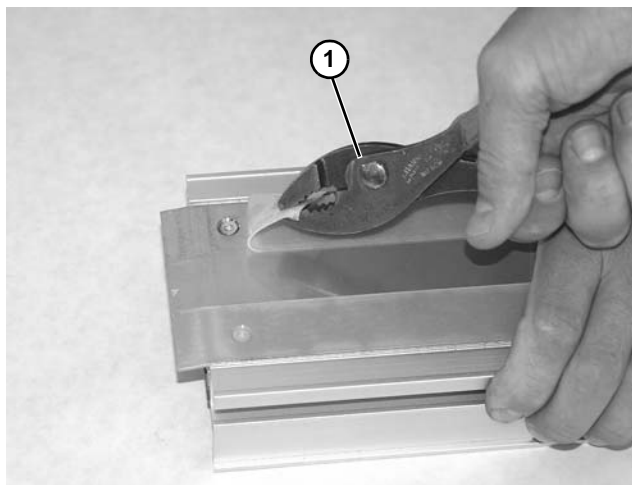

Figure 55
3. Remove old wear strip with a pliers (**Figure 55, item 1**).